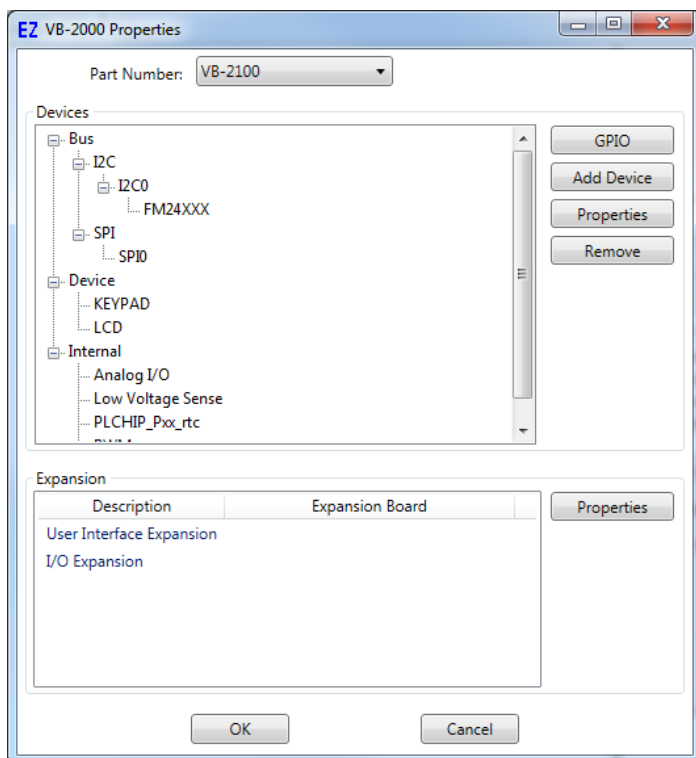

Figure 1-2 - VB-2000 Properties (Models)
3. Using the Drop-down Part Number select box, select the model of the VB-2000 Series Bear Bones Controller. Refer to Figure 1-2. With the model selected, the Devices pane will update with the currently selected features for the VB-2XXX. The **ADD DEVICE** button is used to install and configure additional features such as Ethernet that are not automatically loaded and configured. For this example, we will not add additional features at this time. These features may be installed and configured by re-visiting this window.